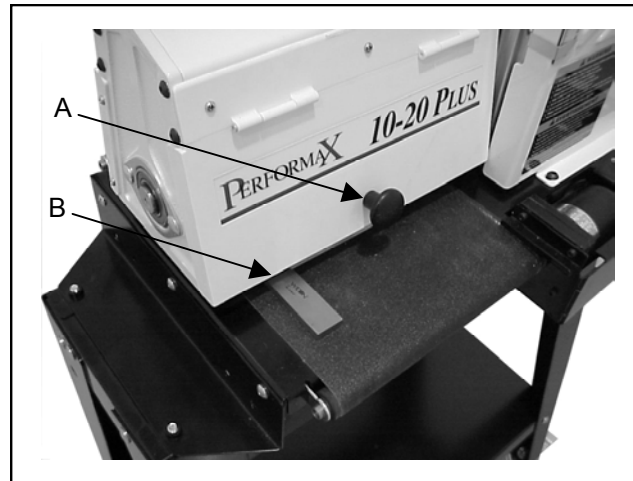

Figure 6
1. Lift the knob (Figure 6, Item A) to open the dust cover and remove the abrasive strip. If you are unsure how to do this, see the "Wrapping Abrasive Strips" section in this manual.
2. Using a metal straight edge, or ruler, as a thickness gauge (Figure 6, Item B), insert the gauge between the drum and the conveyor bed on the outer end of the drum.